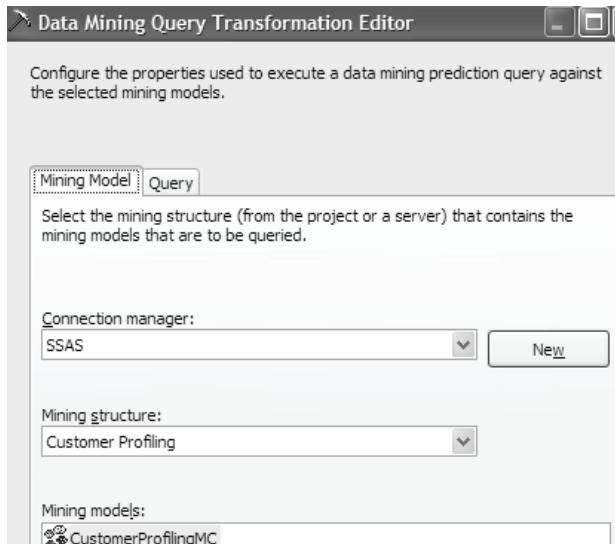

Figure 8.31 Configure the Data Mining Query Task to use the required mining model.
1. Use the Mining Model tab (Figure 8.31) to specify which model will be queried. In our case, this is the CustomerProfilingMC model that is contained in the Customer Profiling structure.